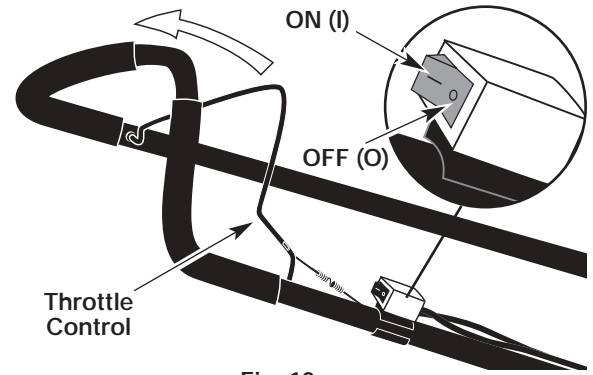

Fig. 10
**NOTE:** There is no need to turn the unit on. The On/Off Stop Control is in the ON (I) position at all times (Fig. 10).